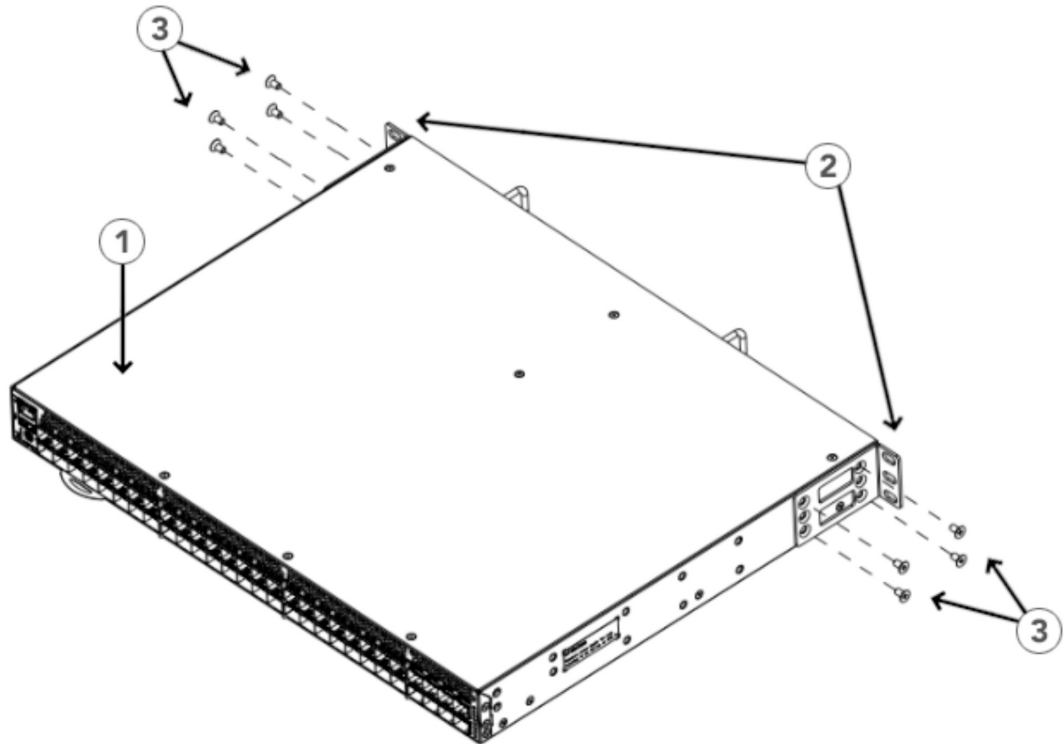

Figure 10. Attaching the front brackets to the rear of the device
1. Position the right front bracket with the flat side against the right rear side of the device, as shown in Figure 10 on page 20.